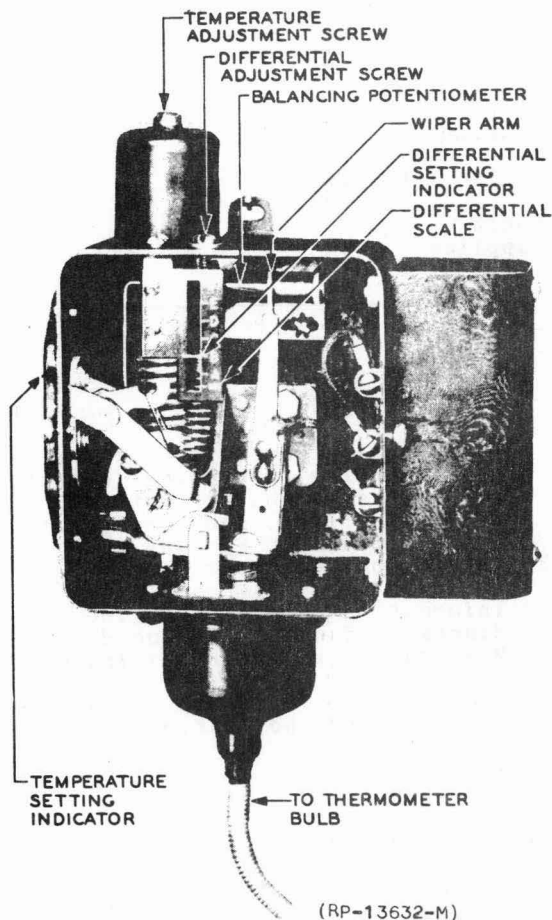

FIG. 2 T915C TYPE CONTROLLER
1.22 The M904E type shutter motor, is used to control the engine air exhaust shutters. Under the control of a T915C type controller, (see Figure 2), it will hold the air exhaust shutters in any position from fully open to fully closed depending upon the engine radiator water temperature. The water temperature affects the operation of the controller thru a tube at the end of which is a thermostatic bulb immersed in the water.
3.61 Operation: The wiper arm shall be at the right end of the active part of the balancing potentiometer (Figure 2 shows this condition) when the water in the radiator is cold and shall move to
3.62 This controller is normally set correctly at the factory. If adjustment is required use the temperature adjustment screw, set the temperature setting indicator at 135 to 140°F. See Figure 2. Start the engine and as the water temperature rises, observe the action of the wiper arm. As the temperature continues to rise, observe the wiper and adjust the differential setting indicator, by means of the differential adjusting screw, to bring the wiper to the left end of the potentiometer when the temperature reaches 170°F.